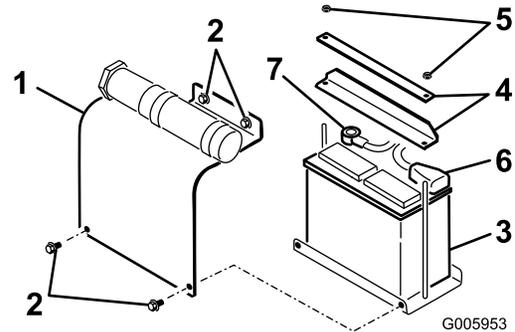

Figure 35
2. Remove the battery cover (Figure 35).
1. Remove the nuts and bars securing the battery (Figure 35).
2. Disconnect the negative (black) cable to the negative (-) battery post (Figure 35).
3. Disconnect the positive (red) cable to the positive (+) battery post (Figure 35).
1. Install the battery onto the platform (Figure 35).
2. Secure the battery in the chassis with the bars and nuts removed previously (Figure 35).
3. Connect the positive (red) cable to the positive (+) battery post (Figure 35). Slide the rubber cover over the battery post.
4. Connect the negative (black) cable to the negative (-) battery post (Figure 35).
5. Install the battery cover (Figure 35).